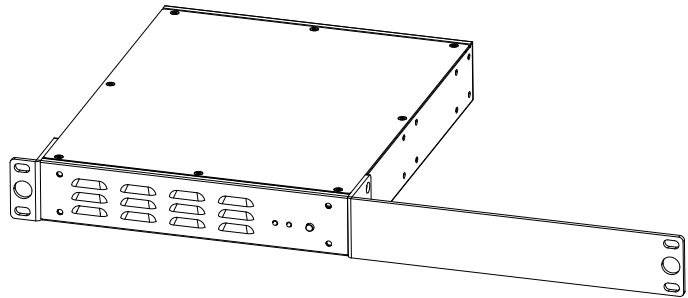

Figure 2: Setup for single rack mounting
1. Using four of the supplied screws, fasten the supplied long rack mounting ear to one side of the DMX PowerPort 375 as shown in Figure 2.
2. Using four of the supplied screws, fasten one of the supplied short rack mounting ears to the other side of the DMX PowerPort 375 as shown in Figure 2.